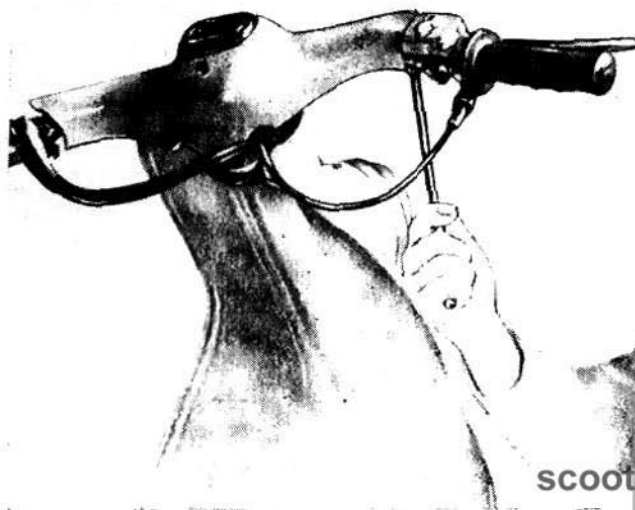

Fig. 35
- (1) Unscrew central screw and side clip screws fixing cowl to handlebar. (Screwdriver and 8 mm box spanner) (fig. 35).